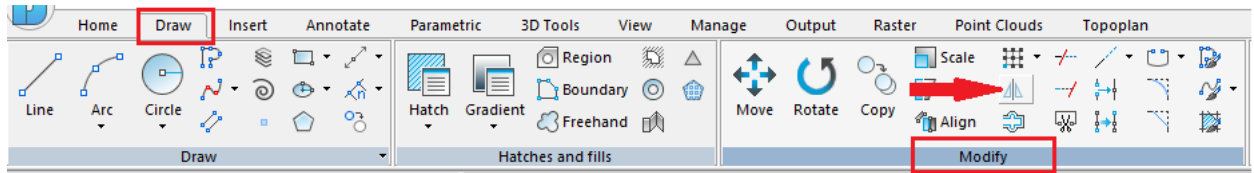

Fig. 14. The **Mirror** command
2.3. Select all objects with a Fence. Then use the **Mirror** command located on the ribbon: **Draw – Modify – Mirror** (fig. 14).